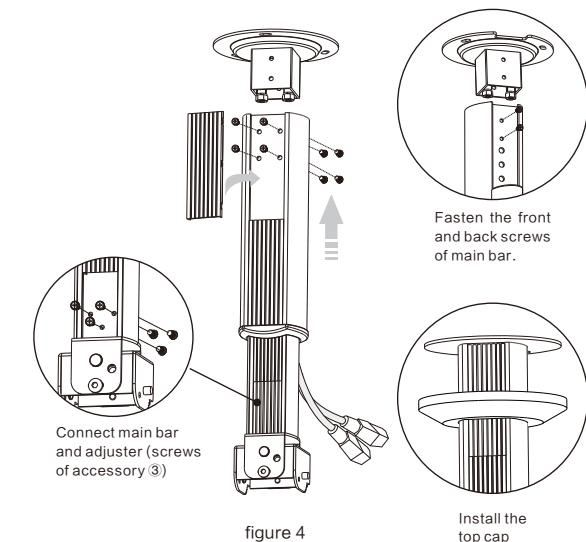

figure 4
- 2 Connect the GPCM Main Bar Overview to the fixation (screws of accessory②). Store the power wire, and then fasten the front and back screws of main bar. Finally, install the ornament board of main bar as figure 4.